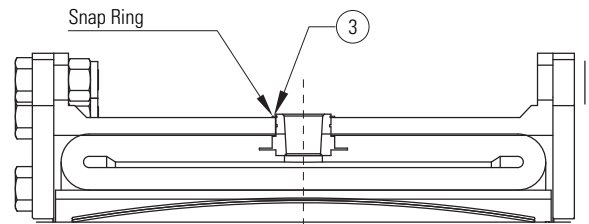

Figure 10
- 4.4.4 Remove the air connection QRV's and spiral snap rings which secure the air actuating tube to the rim. Carefully remove the air actuating tube from the rim and thoroughly inspect. Replace if necessary. See Figure 10.